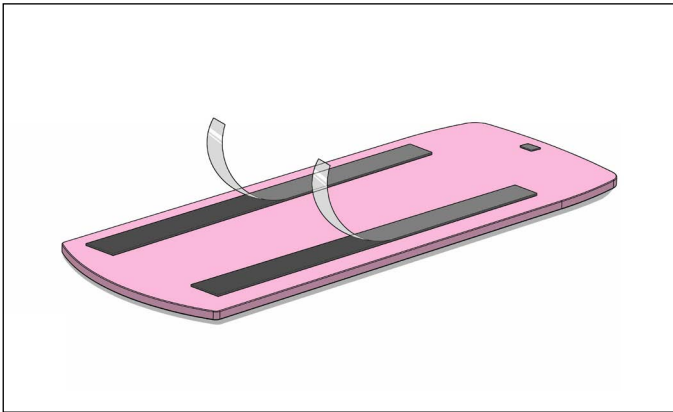

Fig. 1
1. Remove the protective film on the underside of the pad to expose the adhesive backing of the hook and loop strips. (Fig. 1)